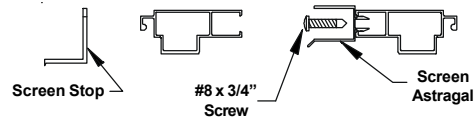

Figure 6
9. Holding the astragal in place on the edge of the screen, drill a 1/8" hole into the interior screen wall. After drilling the first hole, screw the astragal to the screen using a #8 x 3/4" pan head screw to hold it in place while drilling the rest of the holes. Finish putting in the rest of the screws. (Figure 6)